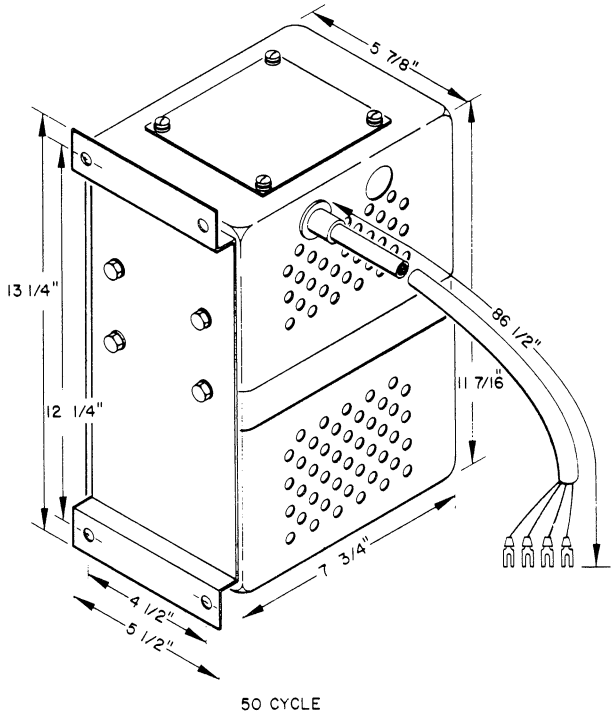

Figure 2-5. Voltage Regulator Mounting
Step 8: Select a location for the voltage regulator. Using the dimensions and mounting details shown in Figure 2-5, mount this unit using the hardware provided.